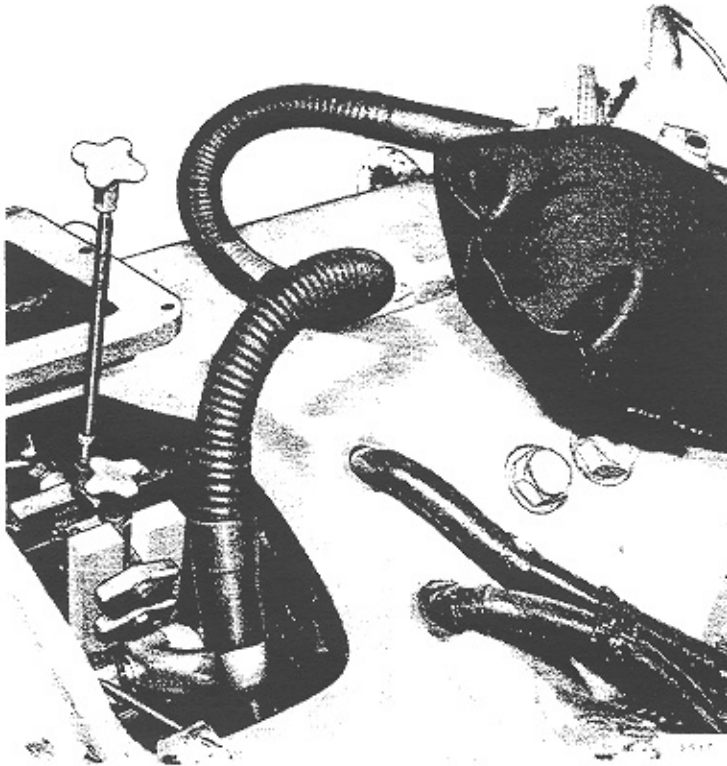

Fig. 13 - Grinder Installation
3. Install the adapter in the top brush holder position and secure it with the brush holder clamp block and bolt as shown in Fig. 13. Refer to Service Data for grinder adapter part number.